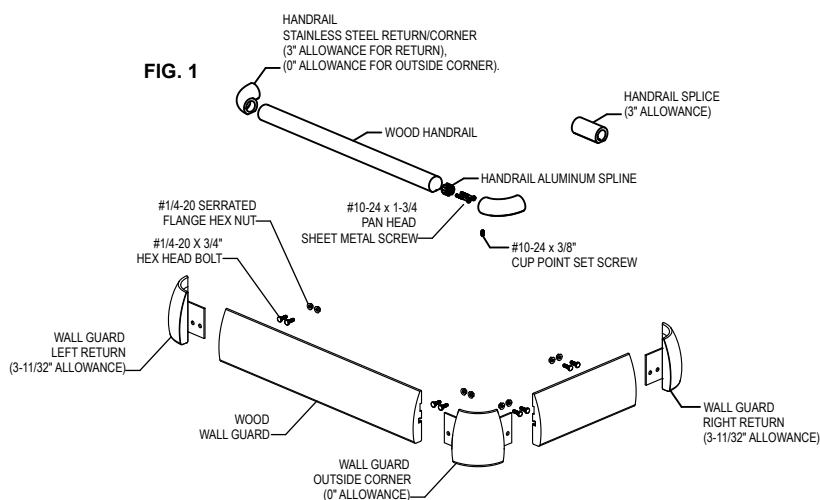

FIG. 2
2. Drill 7/8" deep holes in the wood rail for threaded inserts using an 11/32" drill bit and insert guide for hole placement. Screw threaded inserts into the handrail with 6mm power bit or hex key. Holes should be 4" from each return and spaced a maximum of 32" O.C. See Figure 2.